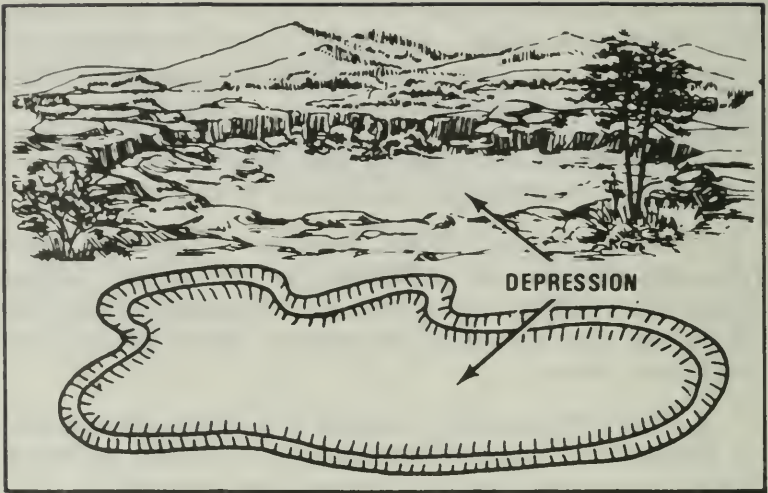

Figure 19. A Depression.
(5) Depression (Figure 19). A low point or hole in the ground, surrounded on all sides by higher ground.